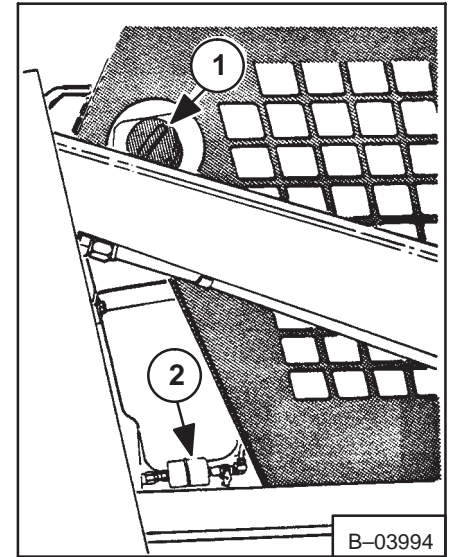

Fig. 1-11 Fuel Fill Location (540)
To add fuel to the tank (Fig. 1-11 & 1-12), use the following procedure:
5. Tighten the cap (Fig. 1-11, Item 1 & 1-12, Item 1) on the fuel tank.
540 Bobcat Loader: There is a fuel filter (Fig. 1-11, Item 2) in the fuel line by the fuel shut-off valve. The fuel filter must be replaced every 250 hours of loader operation. See Section 7 for the correct replacement procedure.